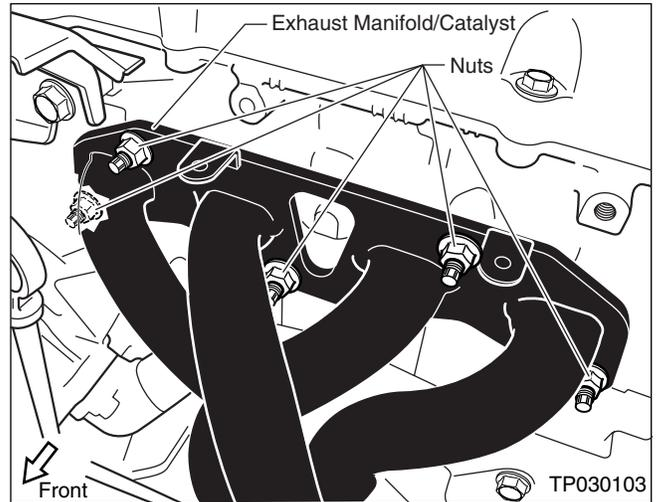

Figure E21
27. Remove five nuts that secure the Exhaust Manifold/Catalyst to the cylinder head (see Figure E21).